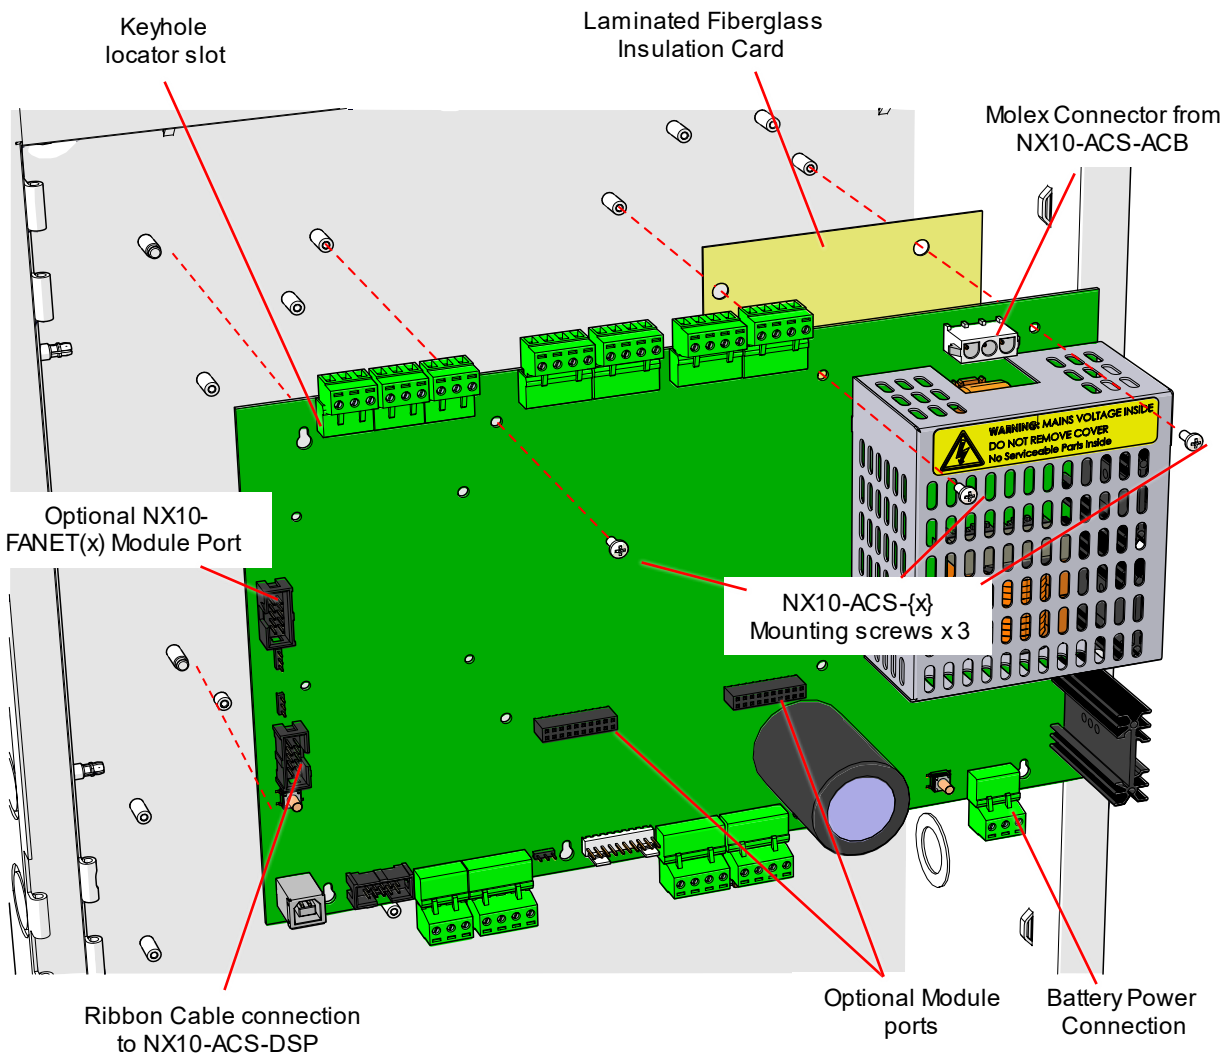

Figure 6 - NX10-ACS-1L Base Card Installation
1. Put the laminated fiberglass insulation card in position on the backbox (**Figure 6**).
2. Carefully slide the NX10-ACS base card onto the five (5) top-hat stand-offs.
3. Fit the three (3) panhead screws that secure the NX10-ACS base card to the backbox.